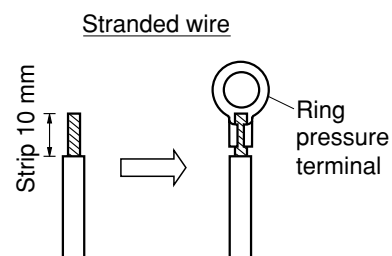
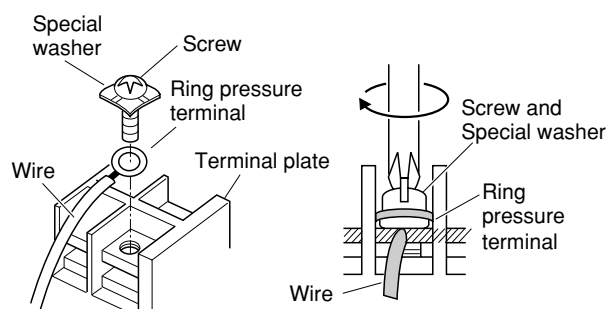

Fig. 5-5
Fig. 5-6
- (1) Cut the wire end with cutting pliers, then strip the insulation to expose the stranded wiring about 10 mm and tightly twist the wire ends. (Fig. 5-5)
- (2) Using a Phillips head screwdriver, remove the terminal screw(s) on the terminal plate.
- (3) Using a ring connector fastener or pliers, securely clamp each stripped wire end with a ring pressure terminal.
- (4) Place the ring pressure terminal, and replace and tighten the removed terminal screw using a screwdriver. (Fig. 5-6)